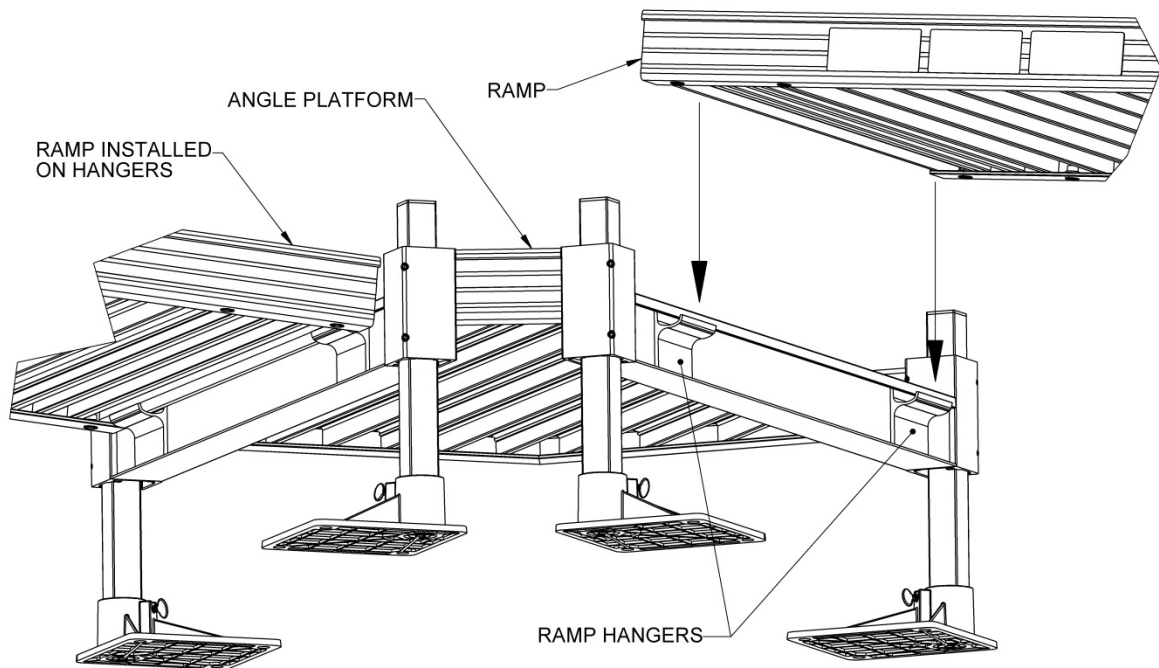

FIG. 3
2.4. Set the ramp on the ramp hangers. The ramp hangers should be positioned as close as possible to the inside of the ramp side rails. The procedure is the same at both the top and bottom of ramp runs (FIG. 3).